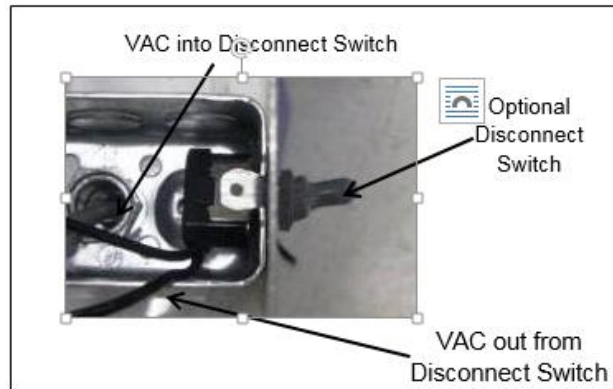

Figure 12
5.6 OPTIONAL AC DISCONNECT SWITCH INSTALLATION: Connect disconnect switch in line with VAC line (black wire) (see figure 12)